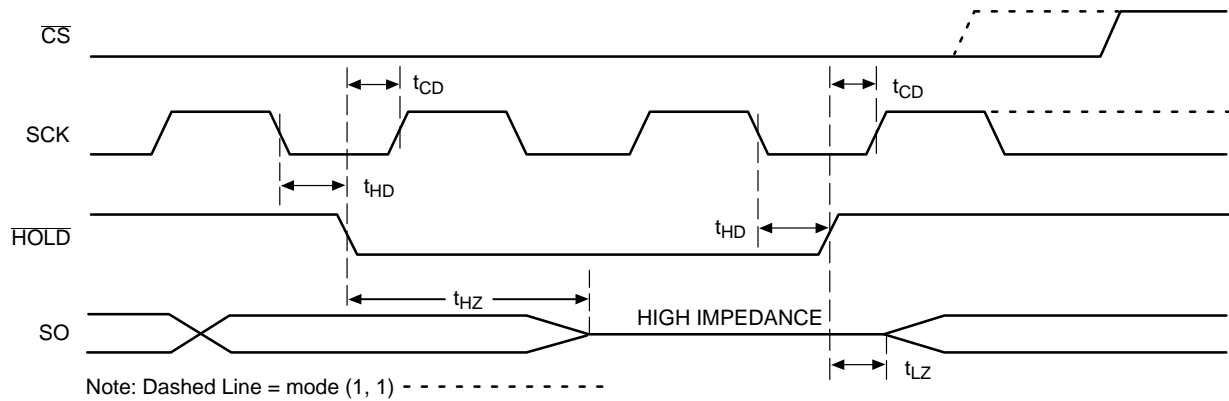

Figure 11. $\overline{\text{HOLD}}$ Timing
The $\overline{\text{HOLD}}$ input can be used to pause communication between host and NV25M01. To pause, $\overline{\text{HOLD}}$ must be taken low while SCK is low (Figure 11). During the hold condition the device must remain selected ($\overline{\text{CS}}$ low). During the pause, the data output pin (SO) is tri-stated (high impedance) and SI transitions are ignored. To resume communication, $\overline{\text{HOLD}}$ must be taken high while SCK is low.